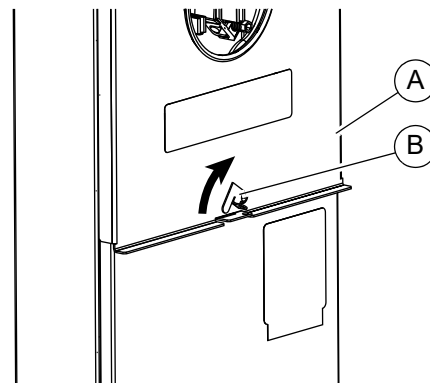

Figure 3-1. Rotate Latch
See Figure 3-1. First, remove outer top cover (A):
1. Rotate latch (B) clockwise until clear of latch hole.